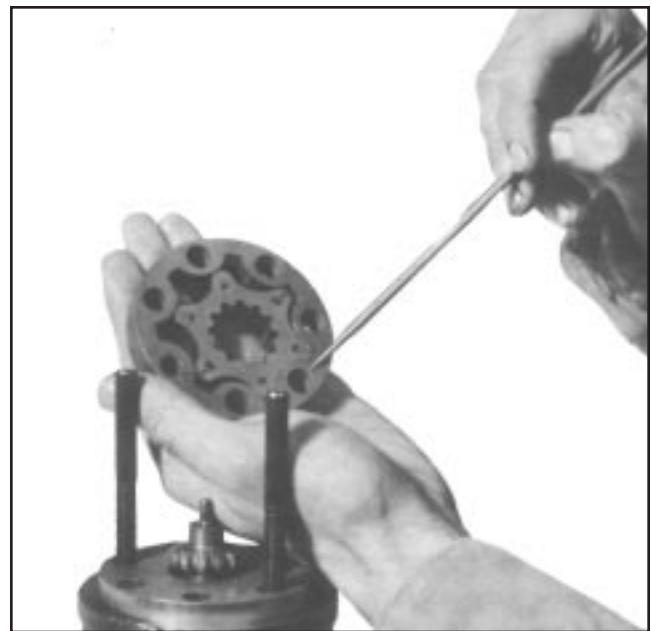

Figure HGA-24
19. Install rotor set (31) over assembly posts and onto spacer plate (29). **Note: One of the seven holes in the rotor set may be smaller than the other six holes. Position this hole, if applicable, over one of the assembly posts. (See Figure HGA-24). Warning: All vane springs (31C) must be down in their slots with no part of spring protruding out either side of metering element.**